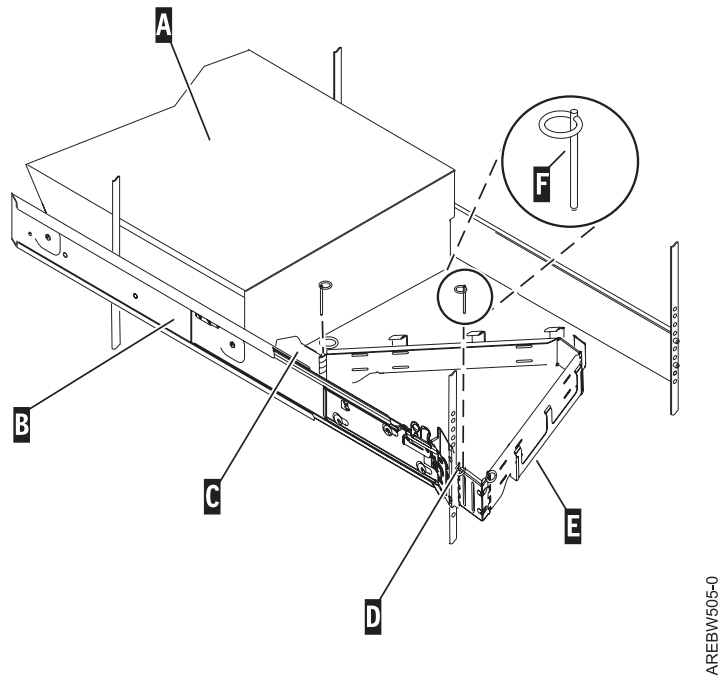

Figure 31. Attaching the cable-management arm.
3. Use the pin (F) to pin the cable-management arm (E) to the rack frame (D) as shown in Figure 31 on page 39.
4. Use the second pin (F) to pin the other end of the cable-management arm to the flange (C) that is attached to the sliding portion of the left system rail assembly (B) as shown in Figure 31.